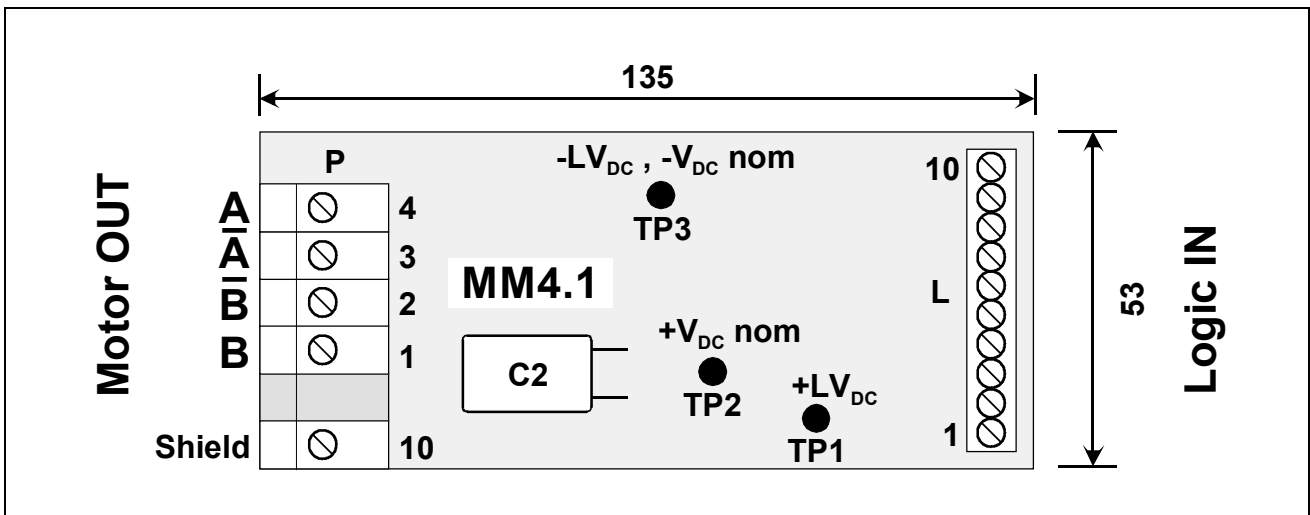

Fig. 5 - DRIVE MOTHERBOARD REAR VIEW (FROM SCREW CONNECTOR SIDE)
- 8.4 - Motherboard MM4 is a printed circuit board, which is mounted on the rear rails of a 3 units rack. The motherboard holds, on the face towards rack front, a DIN 41612 form D connector (where drive is inserted) and, on the back face, two screw-type terminals (P and L in fig. 5) connected to corresponding pins of the DIN connector (see column MOTH. in tables 1 and 2). Screw-type terminal P is used for connections with motor, where screw-type terminal L is used for connections with control logic. The three terminal points (TP1, TP2, TP3), where the bus-bars (connected to the Power Supply motherboard PM2) are soldered, are used to carry  $V_{DC\ nom}$  supply voltage and a 12 Volts source for auxiliary purposes.